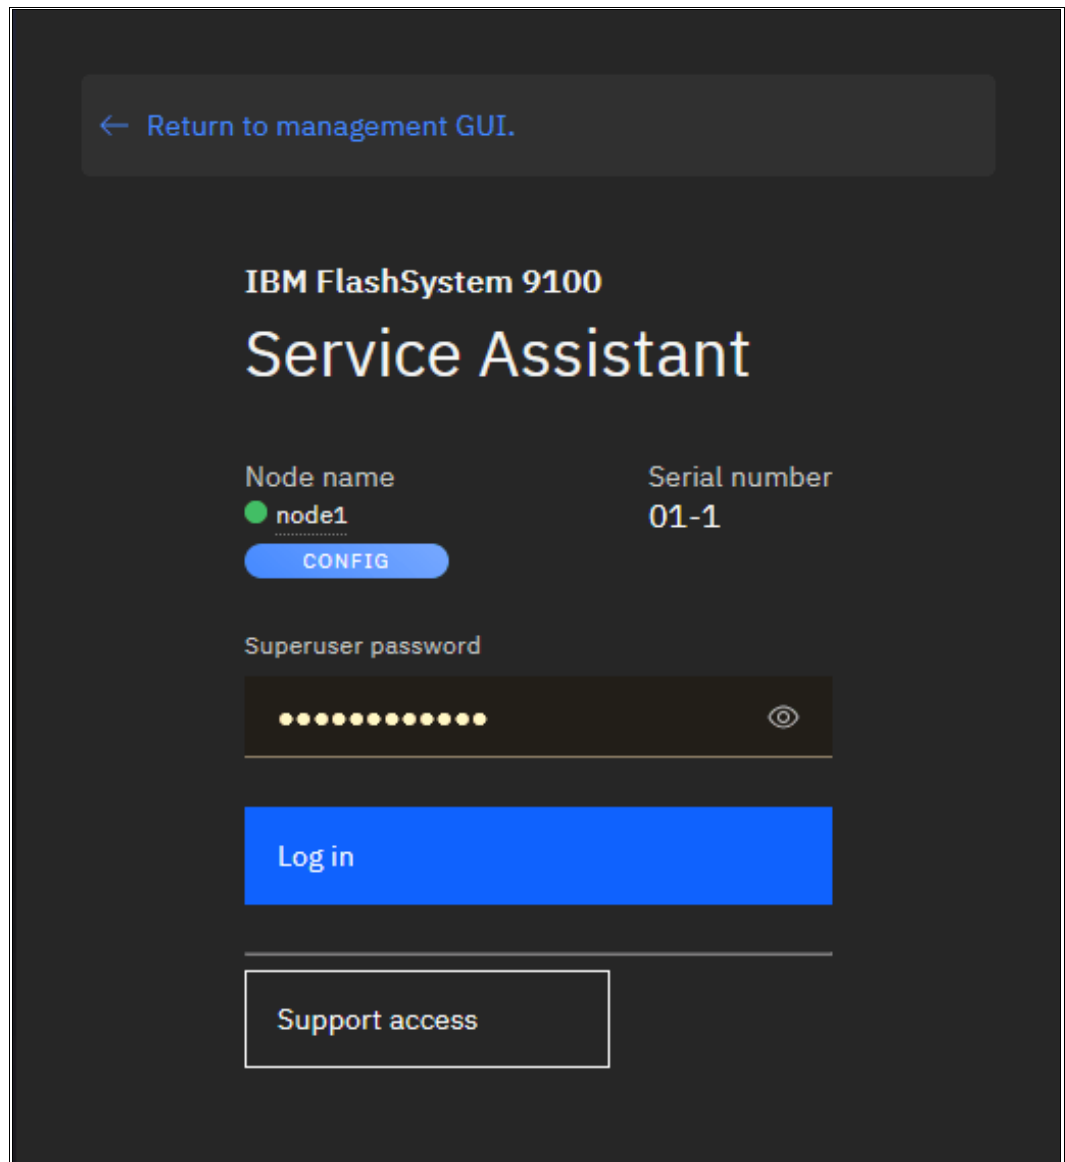

Figure 4-136 Log in Service GUI
1. Log in to the Service Assistant, as shown in Figure 4-136.